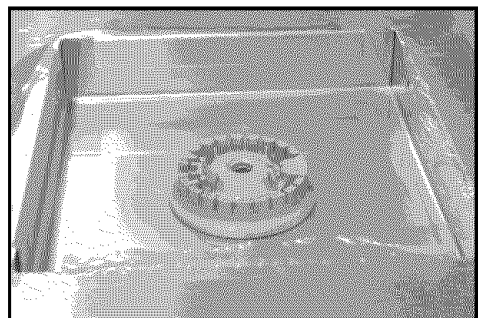

Fig. 9
4. Install burner into side burner tray lining up the three cutouts on the underside of the burner. (See Fig. 9)